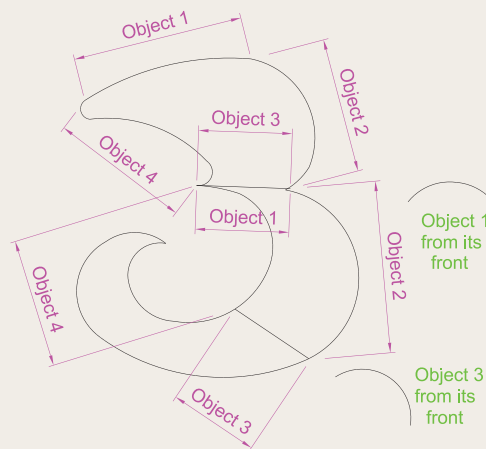

Fig. 17.51 Outlines of the three surfaces
10. The surface model for this exercise was constructed from 3 **Edgesurf** surfaces working to the suggested objects for the surface as shown in Fig. 17.51. The sizes of the outlines of the objects in each case are